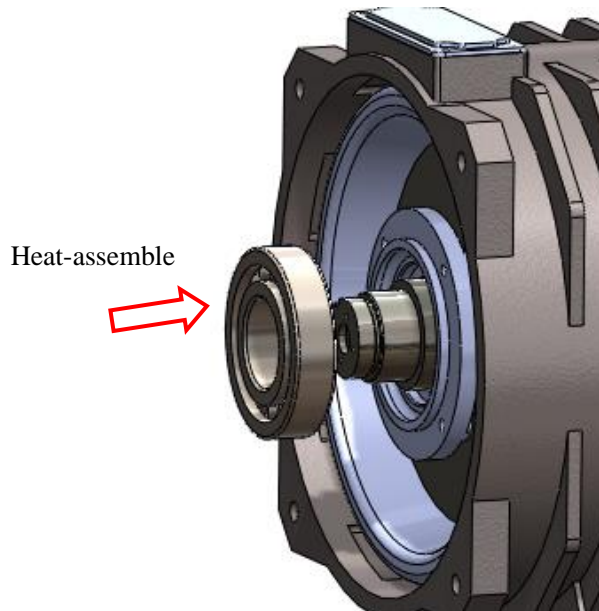

Figure 105: Install bearing
3. Heat the new bearing (6318DDU) in the heating equipment to $70\pm 15^{\circ}\text{C}$ ($158\pm 59^{\circ}\text{F}$) set it quickly and fully onto the shaft. Lock the bearing with the M80 circle nut and lock washer. See Figure 105.